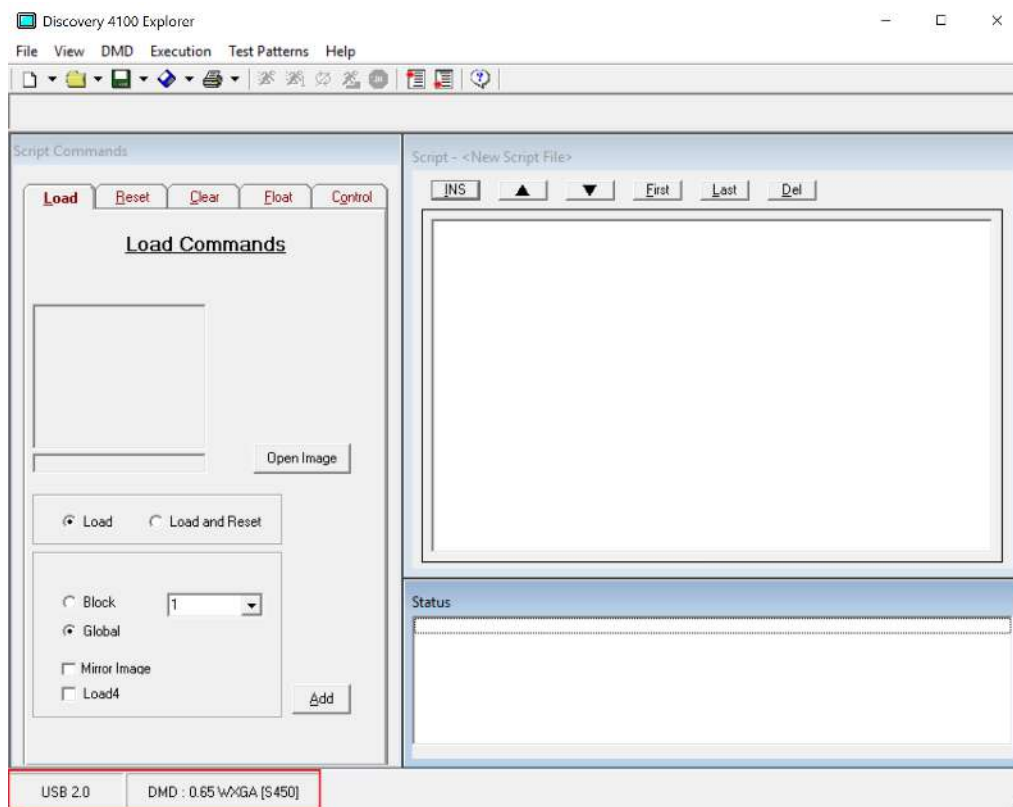

Figure 4-11. Discovery 4100 Explorer USB and DMD - Connection Status
17. The software starts. The USB connection status and DMD type is displayed in the lower left status panel (Figure 4-11):